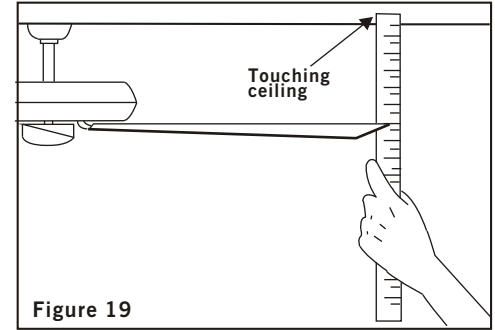

Figure 19
2. Most fan wobbling problems are caused when blade levels are unequal. Check this level by selecting a point on the ceiling above the tip of one of the blades. Measure this distance.(Fig. 19) Rotate the fan until the next blade is positioned for measurement. Repeat for each blade. The distance deviation should be equal within 1/8".